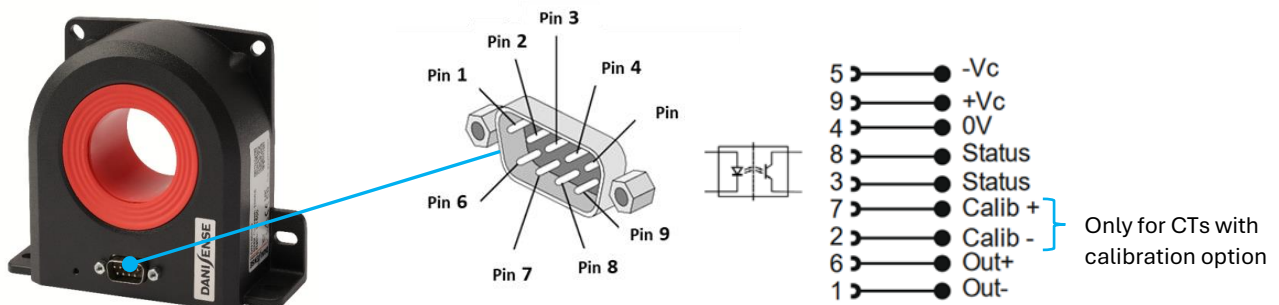

Figure 4: The pin assignment of the DSUB socket of a current transducer with current output signal
- R_M calculation acc. figure 4 with $R_{W2} = 0.05 \Omega$